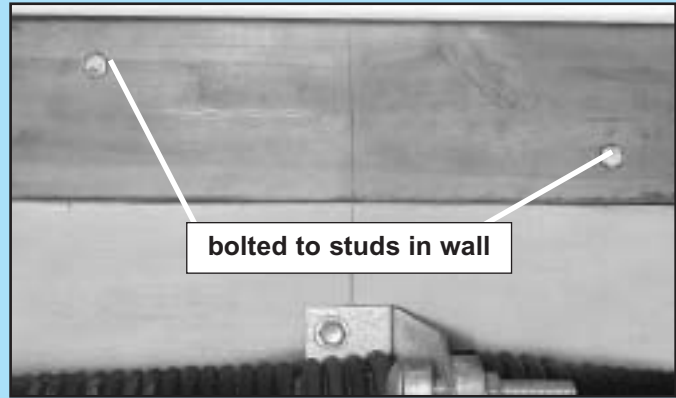

FIG. 2-4 Adding mounting surface.
**NOTE:** If header bracket location needs to be above header for garage door opening, you need to add a mounting surface. A 2" x 6" board securely attached (fasteners not included) across wall studs on either side of your mark is sufficient (Fig. 2-4).